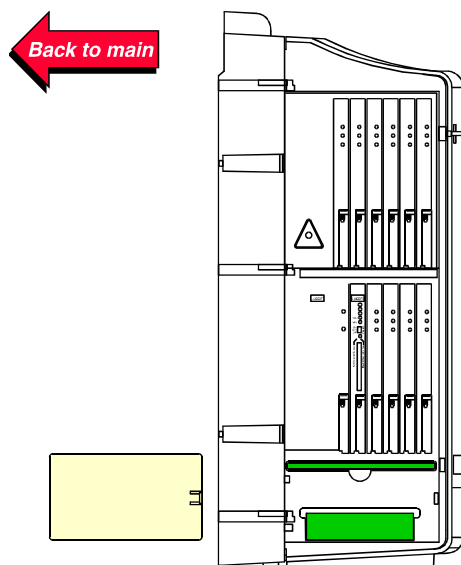

Figure 3-7. Fan/Filter Removal
2. Remove the fan/filter access panel. See Figure 3-7.